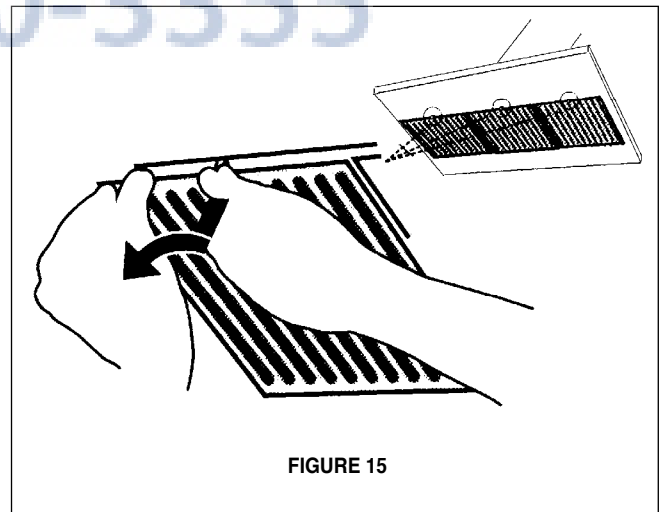

FIGURE 15
6. Install the grease filters using two hands by first pulling and turning the knob to the left so that the locking lever does not protrude from the filter (as in FIGURE 15). Insert the opposite end of the filter into the retaining channel. Insert the knob end next, then turn knob to the right to lock the filter into place.